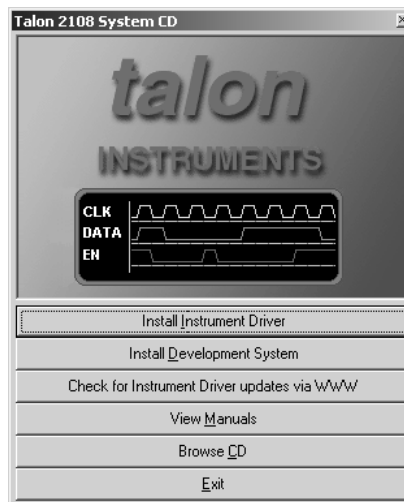

Figure 2-4 2108 System CD Installation Menu
1. Insert the 2108 System CD into your computer's CD-ROM drive. The 2108 System Installation menu will run automatically. If the installation menu, figure 2-4, does not appear, run setup.exe from the CD root directory.